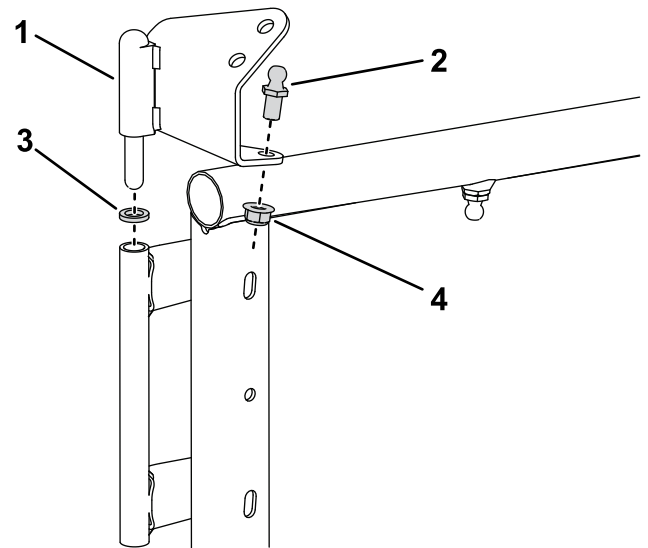

Figure 4
3. Install a stud to the left upper hinge as shown in Figure 4; torque to 10 to 12 N·m (90 to 110 in-lb).
4. Install the left upper hinge and a spacer to the top of the pivot as shown in Figure 4.